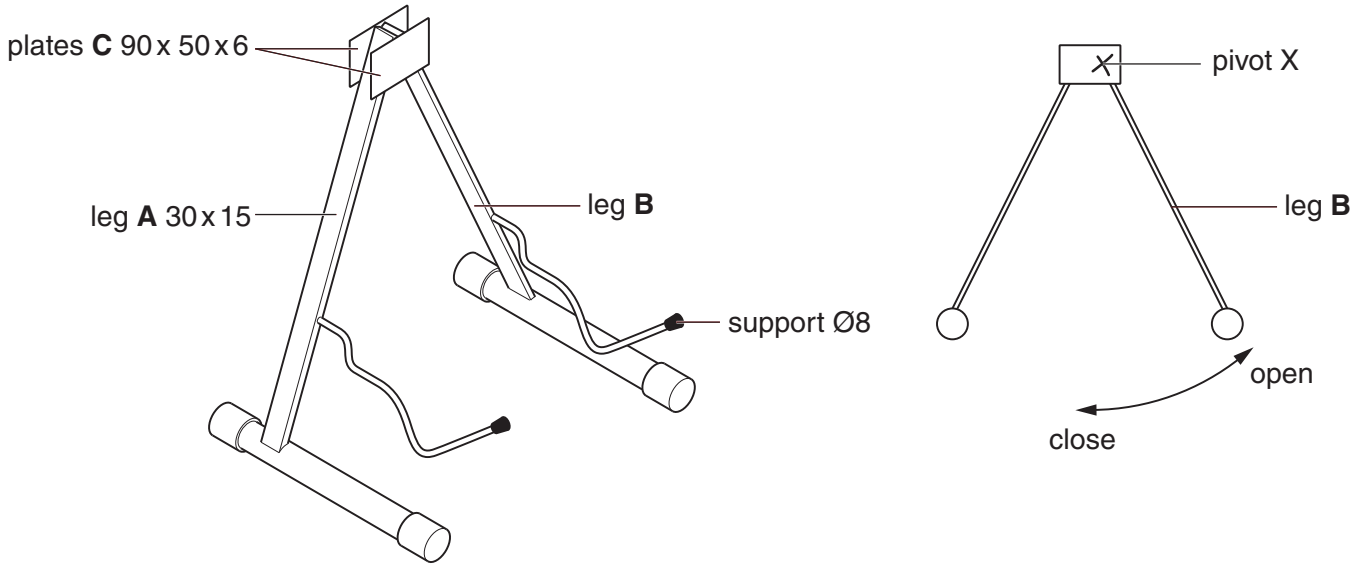

Fig. 2
- 2 Fig. 2 shows views of an incomplete guitar stand made from mild steel.